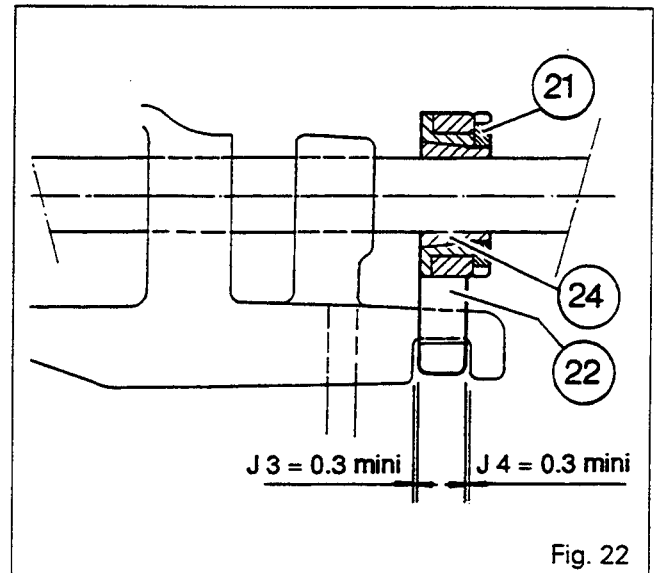

Fig. 22
83. Adjust the plays J3 and J4 (min. = 0.3 mm) evenly so that the mechanical lock (22) operates freely (Figures 22 and 23).